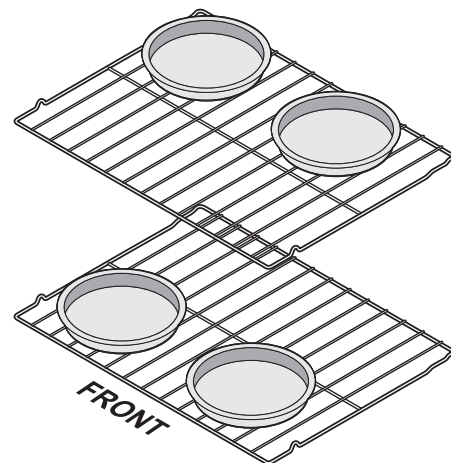

Figure 29: Pan placement for convection baking
- When baking cakes using two oven racks place bakeware in positions 3 and 5 and place bakeware as shown in Figure 29.